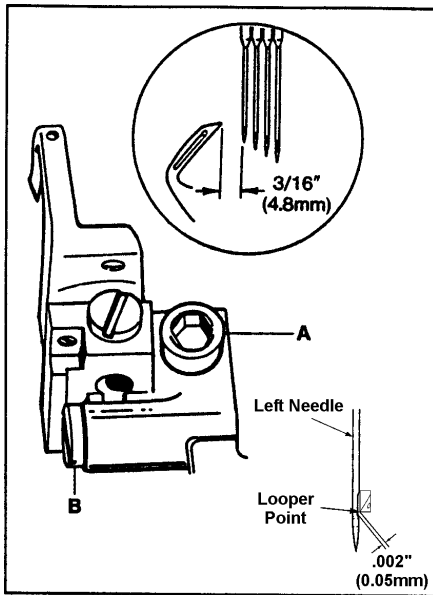

FIG. 15
Turn the handwheel in operating direction until the looper has traveled fully to the left. Loosen screw (A, Fig. 15) and move the looper holder to the right or left until the distance from the point of the looper to the center of the first (left) needle is $\frac{3}{16}$ " (4.8mm). Clearance between the looper point and the scarf of the needle must not exceed $.002$ " (0.05mm). Turn screw (B) until the $.002$ " (0.05mm) dimension is achieved. Tighten screw (A).